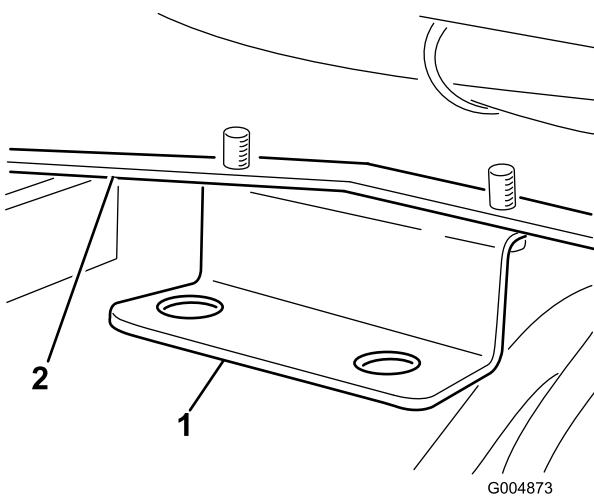

Figure 15
- 9. Install the bulkhead bracket to the left rear frame mount with 2 self-tapping screws (5/16 inch) (Figure 15).